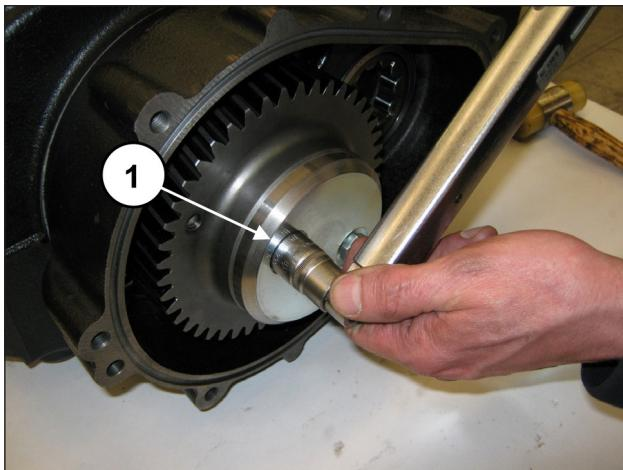

Fig. 79
Calibrate the screws with a torque wrench as indicated in chapter 3 (pos. ①, Fig. 79).